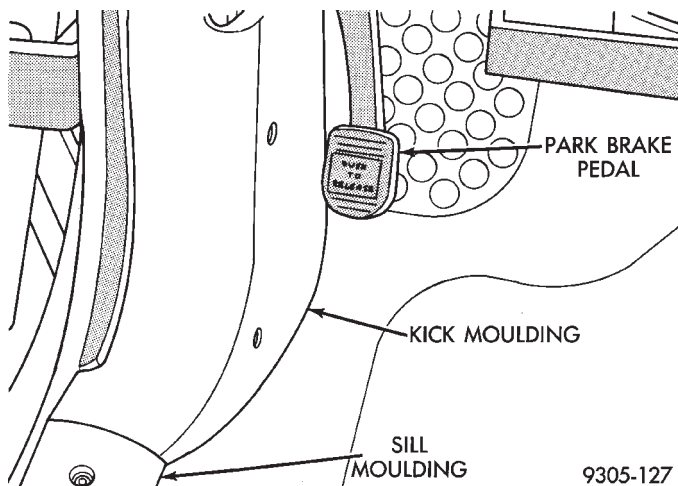

Fig. 11 Sill Molding And Cowl Area Molding
(1) Remove drivers seat assembly from vehicle. Refer to Group 23 Body in this service manual for required seat, removal procedure.
(2) Remove shift knob from floor shifter. Shift knob is removed by removing 3/32 in. allen head set screw located on drivers side of shift knob and pulling straight up on shift knob.
(3) Remove upper center console cover from vehicle if equipped. Refer to Group 23 Body in this service manual for required procedure to remove center console.
(4) Remove the entire lower dash panel assembly from vehicle. Refer to Group 8 Electrical in this service manual for required procedure to remove lower dash panel.
(5) Remove drivers side door opening sill molding. Remove drivers side cowl kick molding to expose park brake pedal mechanism (Fig. 11).
(2) Remove rear seat lower cushion from vehicle. Refer to Group 23 Body in this service manual for required lower seat cushion, removal procedure.
(3) Remove the entire lower dash panel assembly from vehicle. Refer to group 8 Electrical in this service manual for required procedure to remove lower dash panel.
(4) Remove drivers side door opening sill molding. Remove drivers side cowl kick molding to expose park brake pedal mechanism (Fig. 11).